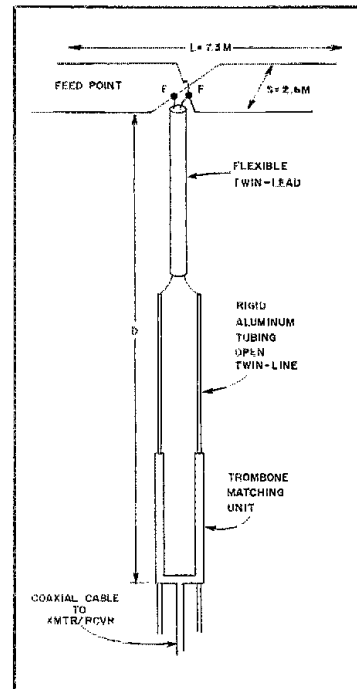

Fig. 4 — Feed-line arrangement for W8JK antenna.
The distance (D) from the antenna feed points (FF) to the shorting strap on the trombone will vary, depending on the frequency band being used. As an example, for operation on 20 and 6 meters and all bands in between, the overall element length (L), including the center gap (G), can be 7.3 m, with the spacing S equal to 2.6 m, as shown in Fig. 4. For these dimensions, the distance (D) to the shorting strap on the trombone unit will be approximately as indicated in Table 1.² Note that, in addition to the closest short
L = 7.3 m and S = 2.6 m, as in Fig. 4.